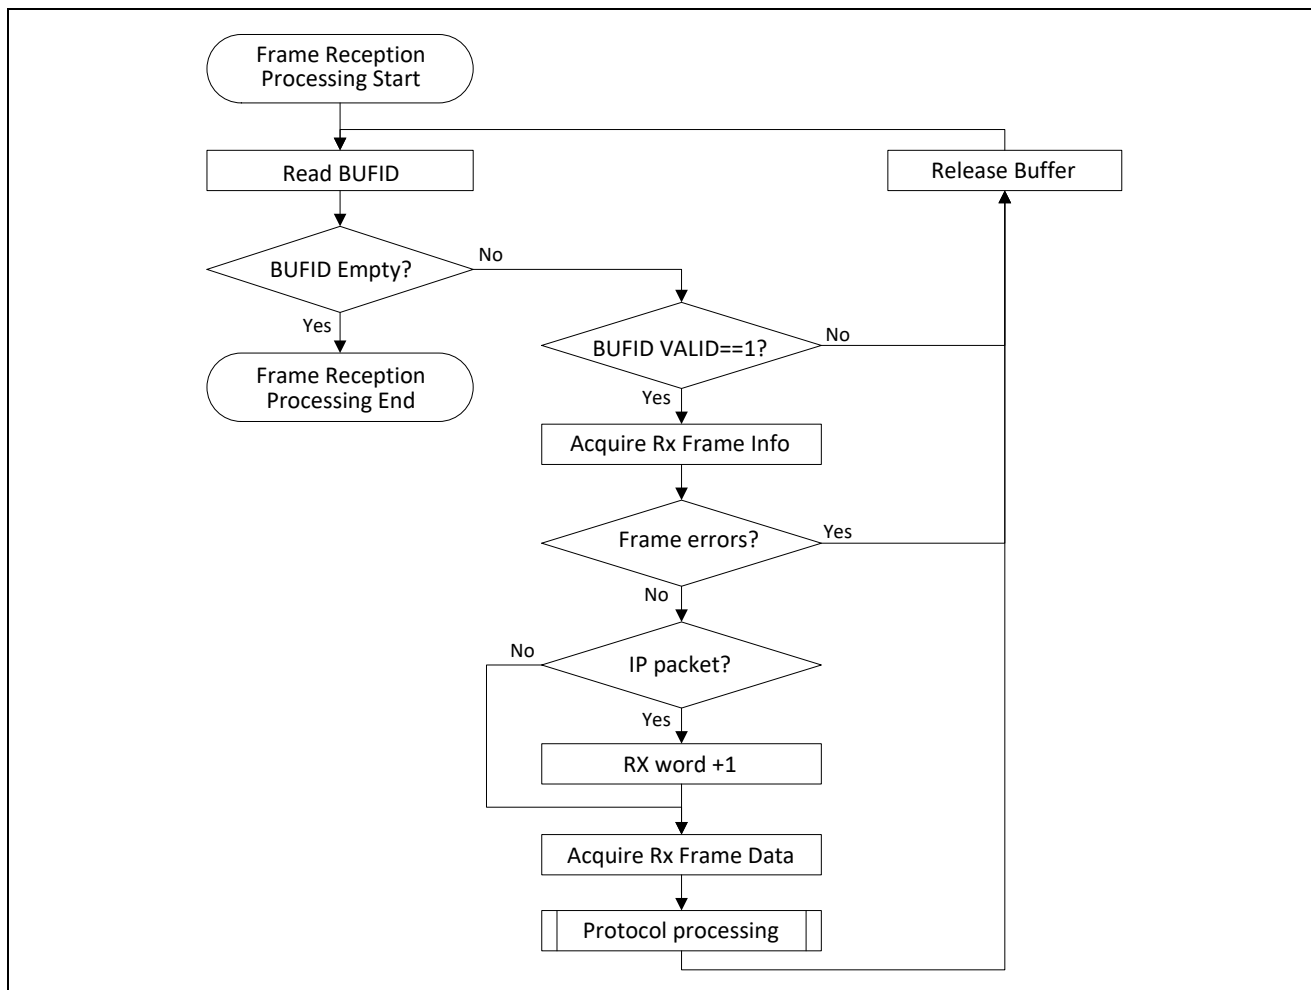

Figure 12.32 Flowchart of Reception processing
- (A) Disable Rx TCPIP accelerator. Specifically, clear bit0 or set bit2 of GMAC\_ACC register.
- (B) To avoid lack of the IP packet, increase reception word size by 1 and transfer the size to protocol stack. In the protocol stack, payload data should be extracted based on size of Total Length field in IP header and the rest data should be discarded. Figure 12.32 is the flowchart of this workaround.